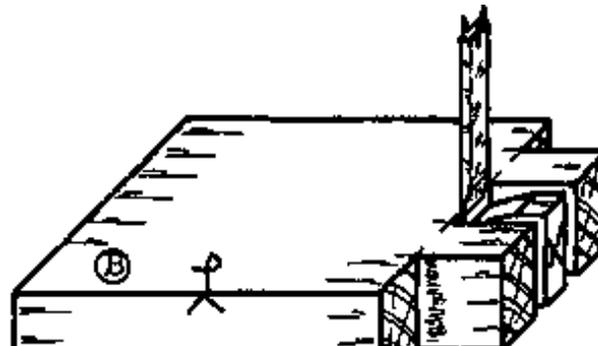

Fig. 6
- Chop out the waste by chiselling alternately vertically and then at an angle, making “V” cuts halfway through from each side (Figs. 6, 7, & 8).